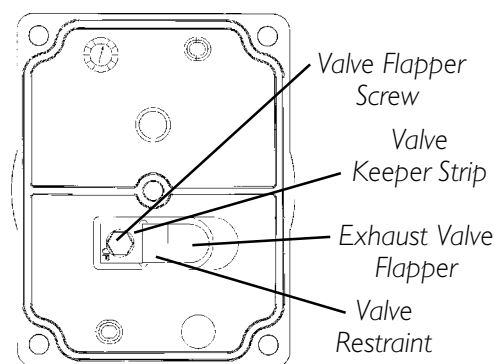

FIGURE 8 - INSTALL THE NEW EXHAUST VALVE FLAPPER, VALVE RESTRAINT AND VALVE KEEPER STRIP
1. Install the NEW exhaust valve flapper, valve restraint and valve keeper strip to the top of the valve plate with the valve flapper screw (FIGURE 8).
2. With the sleeve located and firmly seated on the housing, replace the valve plate in the same manner as it was. Refer to FIGURE 8.